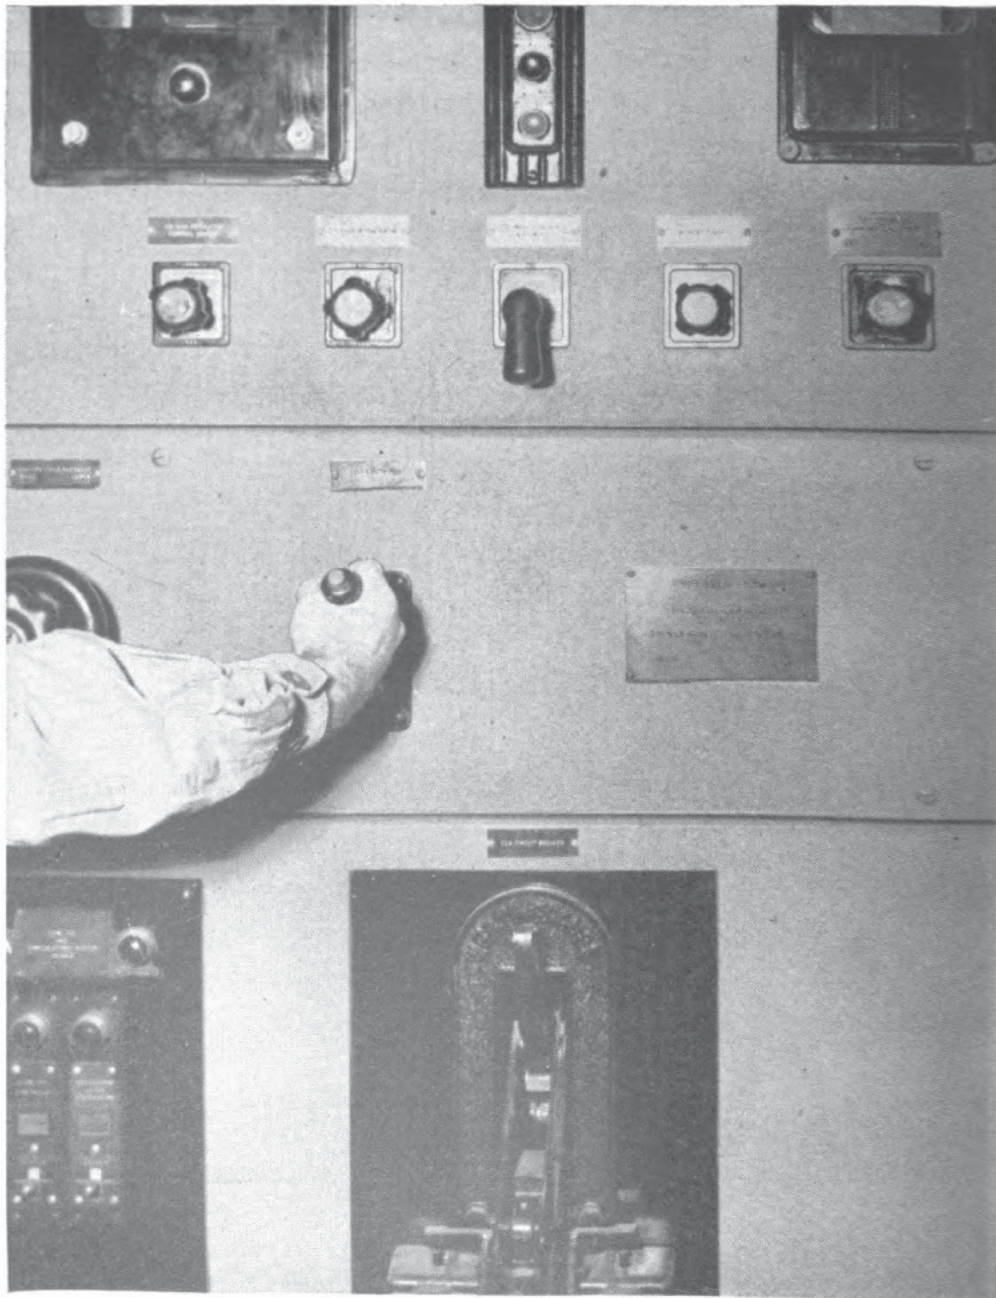

Figure 9-31.—Supplying excitation voltage to alternator's field.
8. Watching the a-c voltmeter, throw the fieldswitch to the ON position (fig. 9-31). This action makes the exciter's voltage available to the a-c generator's field for excitation purposes. A low reading will be obtained on the a-c voltmeter.